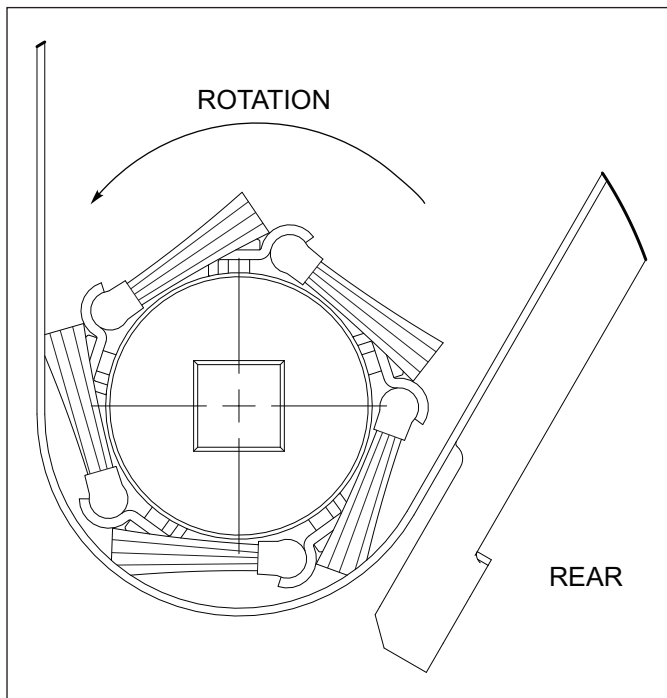

Figure 2-57: Brush Agitator Shaft Rotation
5. See the above Shaft Rotation Diagram. See **Figures 2-57 and 2-58**. Brush/Blade agitators must be installed with careful attention to the direction of shaft rotation. The brushes must face backward, away from rotation to wipe over the seed openings.